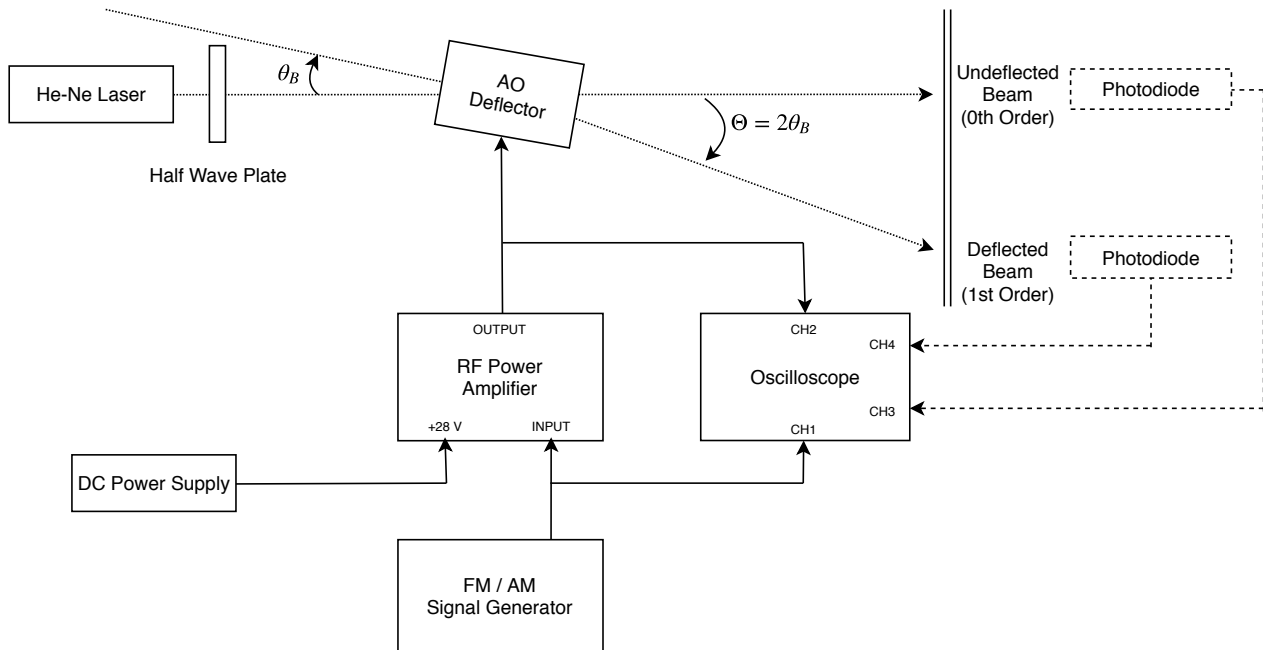

Figure 6: Schematic of the AOD-70 circuit. (the dotted equipment is used for the optional part of the experiment)
1. Connect the circuit as shown in the schematic - [Fig 6].
12. Add the photodiode as shown in [Fig 6] and set the frequency of the generator at 70 MHz.